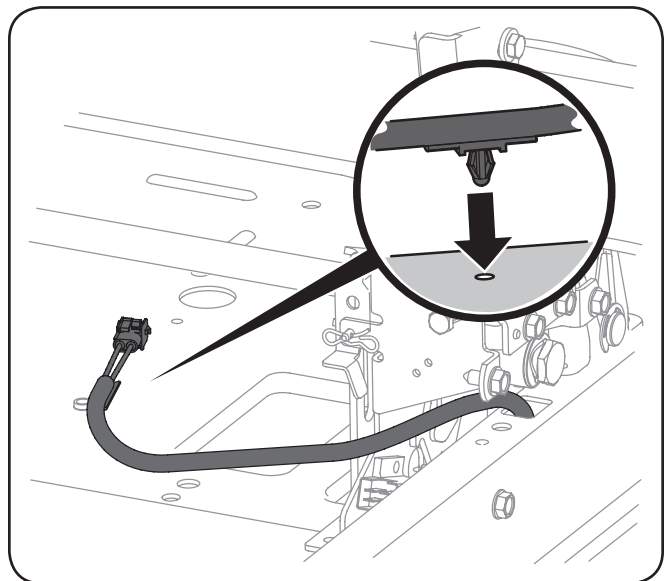

Figure 1-14
- c. Snap the rosebud clip into the frame as shown in Figure 1-14 and connect the headlight harness to the main harness.
- d. Snap the rosebud clip into the frame as shown in Figure 1-14 and connect the headlight harness to the main harness.